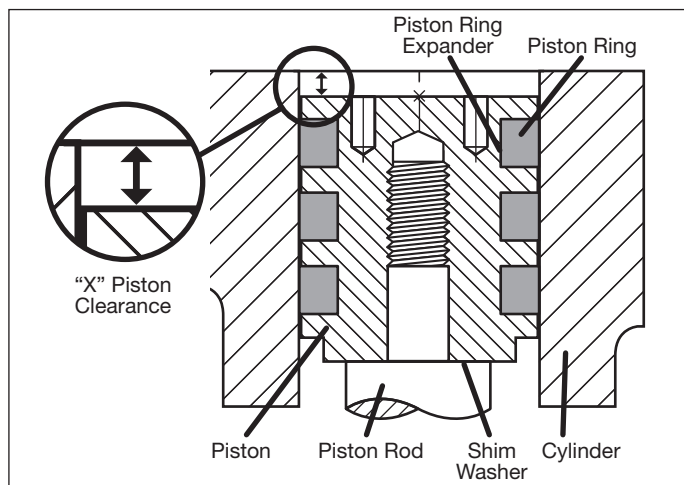

Figure 4.4B: 2nd Stage Piston for Model 351 Only.
10. Next, measure dimension “X” in figure 4.4B. If necessary, add or remove shims until the piston clearance meets the tolerances listed in Appendix B.